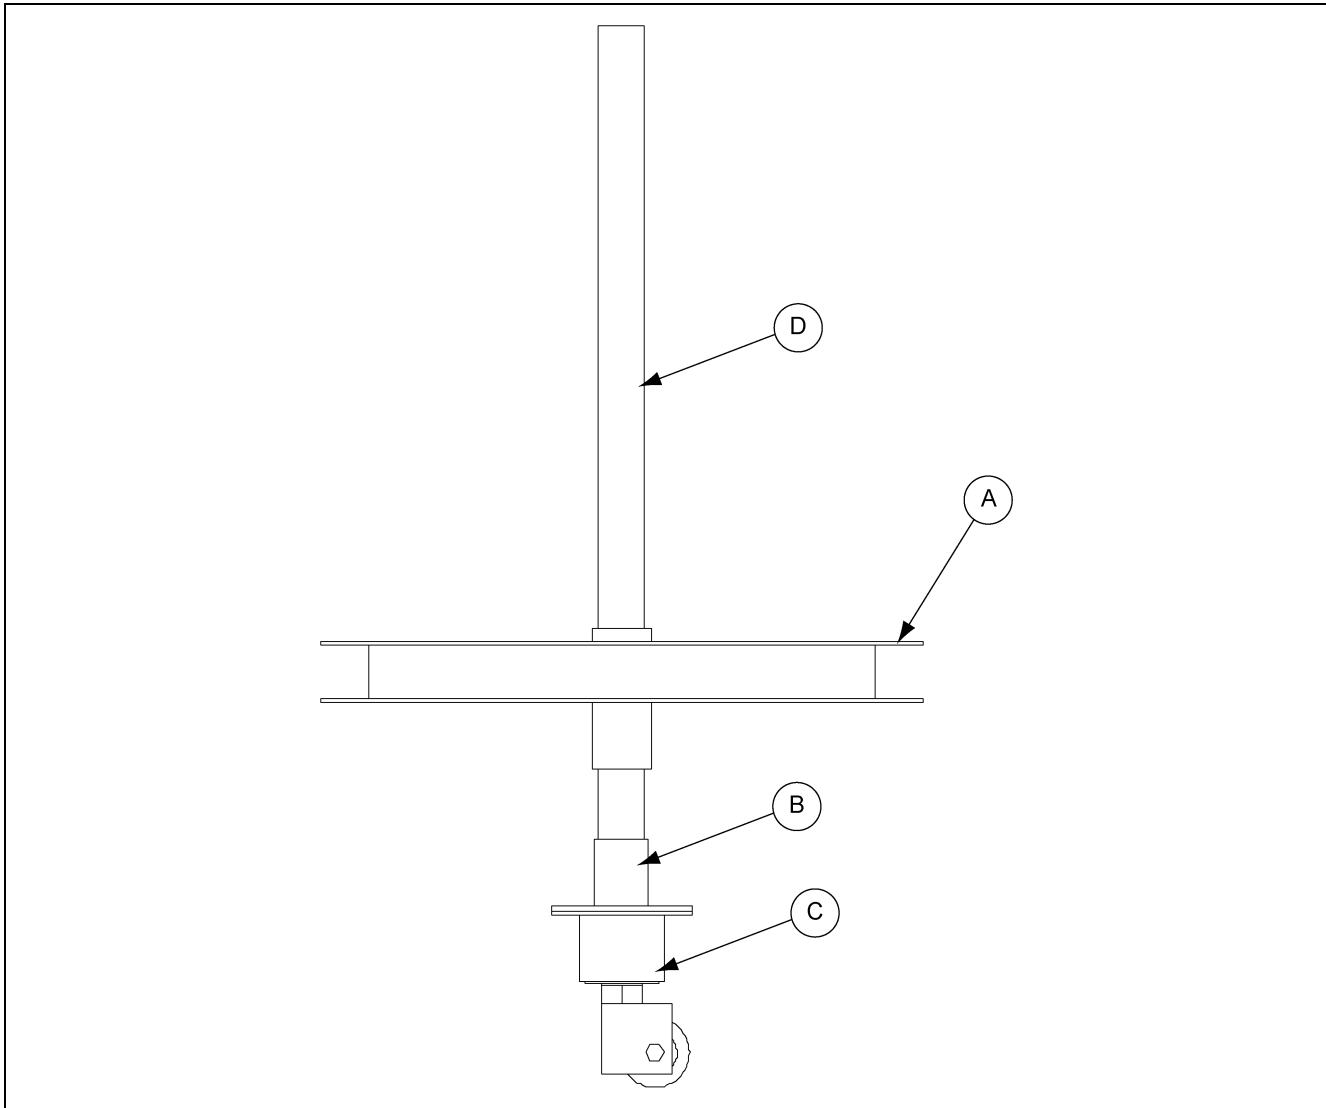
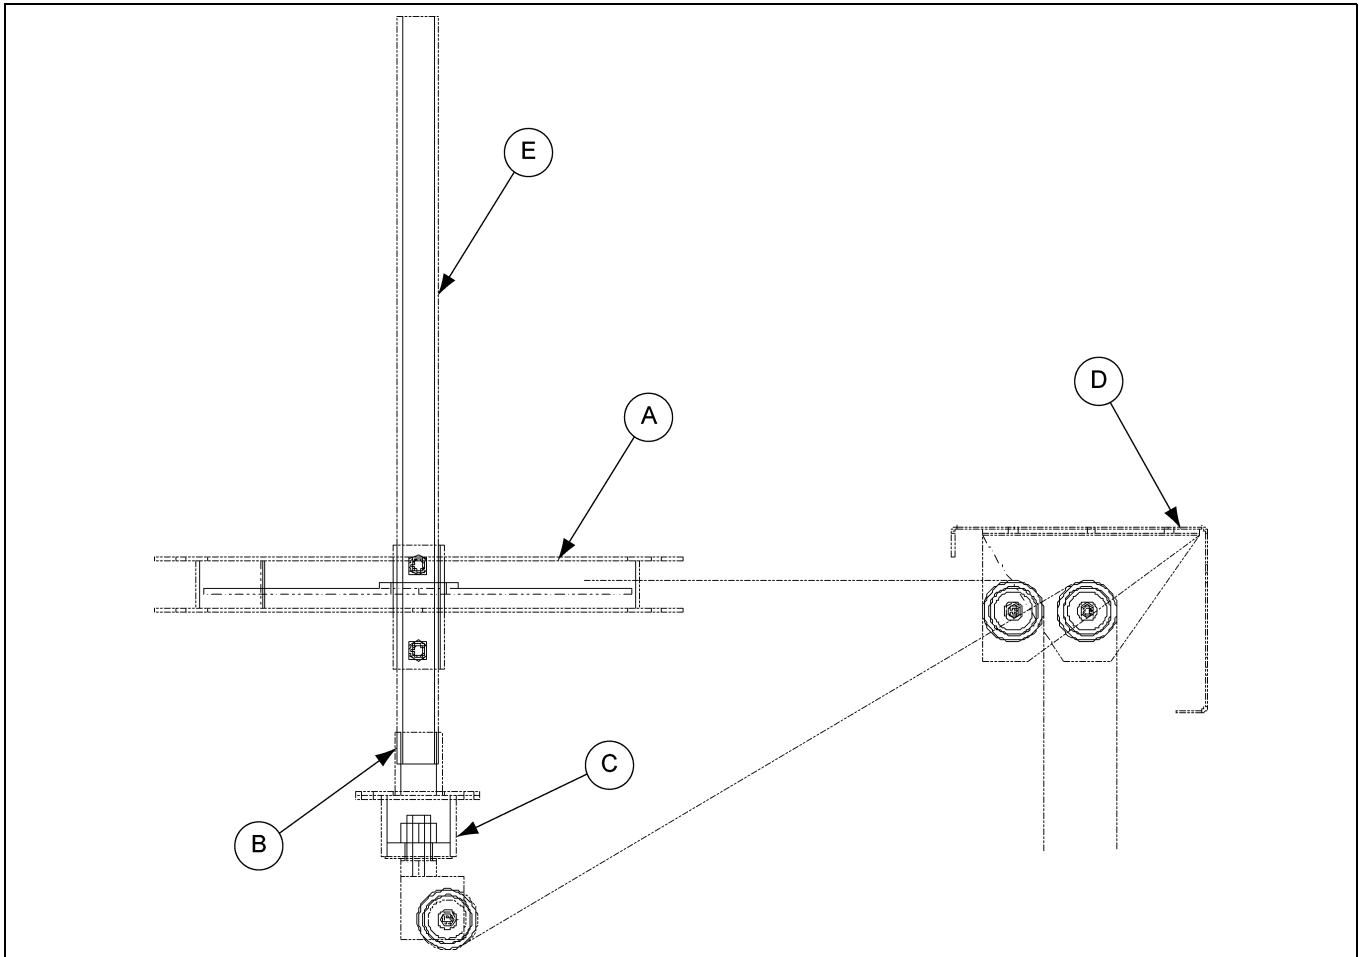

Figure 5C
Figure 5D
The next piece to install is the connector pulley assembly (C). This piece mounts to the coupler connector weldment (B) as shown in Figure 5C below. These are fastened together using (2) 5/16" x 1" bolts and whiz nuts, supplied in the hardware package (GSB-DCG-HDW).
The next piece to install is the upper cable guide assembly (D). The cable guide assembly is installed on the trunking. The location on the trunking is determined by the height of the cable wheel (A). The cable must run in-line from the cable wheel to the sheaves in the cable guide assembly. This location is shown in Figure 5D below. For cable installation, See Page 20.
With shorter piece of cable, take it and run through center pulley in upper cable guide assembly (See Figures 5E and 5F on Page 16.) Then run cable over to pulley (GSB-0045) on control pipe of distributor and continuing feeding cable up through control pipe in distributor. (See Figure 5D on Page 15.) Make sure cable is fed through all pulleys that are inside distributor. Attach this end to the sliding mechanism inside distributor by looping through eye in slide mechanism. Attach cable back to itself using cable clamp. Once this end is attached, run the cable down the side of the leg to the lower cable wheel assembly (See Figure 5H on Page 18.), running through cable guides when necessary. (See Figure 5I on Page 19.) Attach this end to the control handle (GSB-0030) on the lower cable wheel assembly by looping through end hole and attach cable back to itself using cable clamp. (See Figure 5H on Page 18.) The control handle will be pulled up to let spout turn inside distributor. Make sure when cable is clamped together that control handle still has enough travel upward to allow the spout to turn.
Take the longer piece of cable and mark the center. Start at the upper cable wheel on the control pipe of the distributor. (See Figure 5C on Page 14.) Start at the center of the cable and wrap it around the cable wheel a minimum of three (3) times. Take the ends of the cable and run them over to the upper cable guide assembly. (See Figure 5D on Page 15.) Feed the ends through the two (2) outside pulleys. Then run both cables down the leg to the lower cable wheel assembly (See Figure 5H on Page 18.), running through cable guides as necessary. (See Figure 5H on Page 18.) Take one end of cable and wrap around cable wheel a minimum of two (2) times. Loop through one of the square holes inside of cable wheel and attach back to itself with cable clamp. Take the other end and wrap a minimum of two (2) times. Loop end through one of the square holes inside on cable wheel, on opposite side as other cable end and attach back to itself with cable clamp.